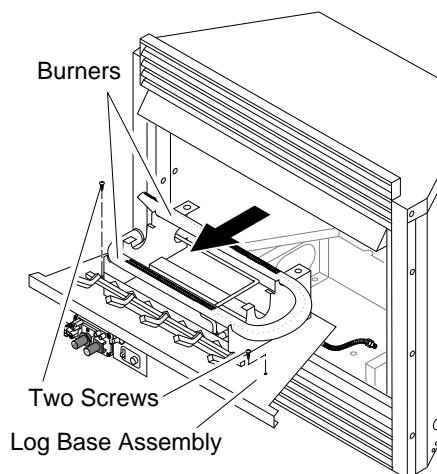

Figure 18 - Removing Log Base Assembly From Fireplace Insert
- Remove screws that attach log base assembly to fireplace insert (see Figure 18). Carefully lift up log base assembly and remove from fireplace insert (see Figure 18).